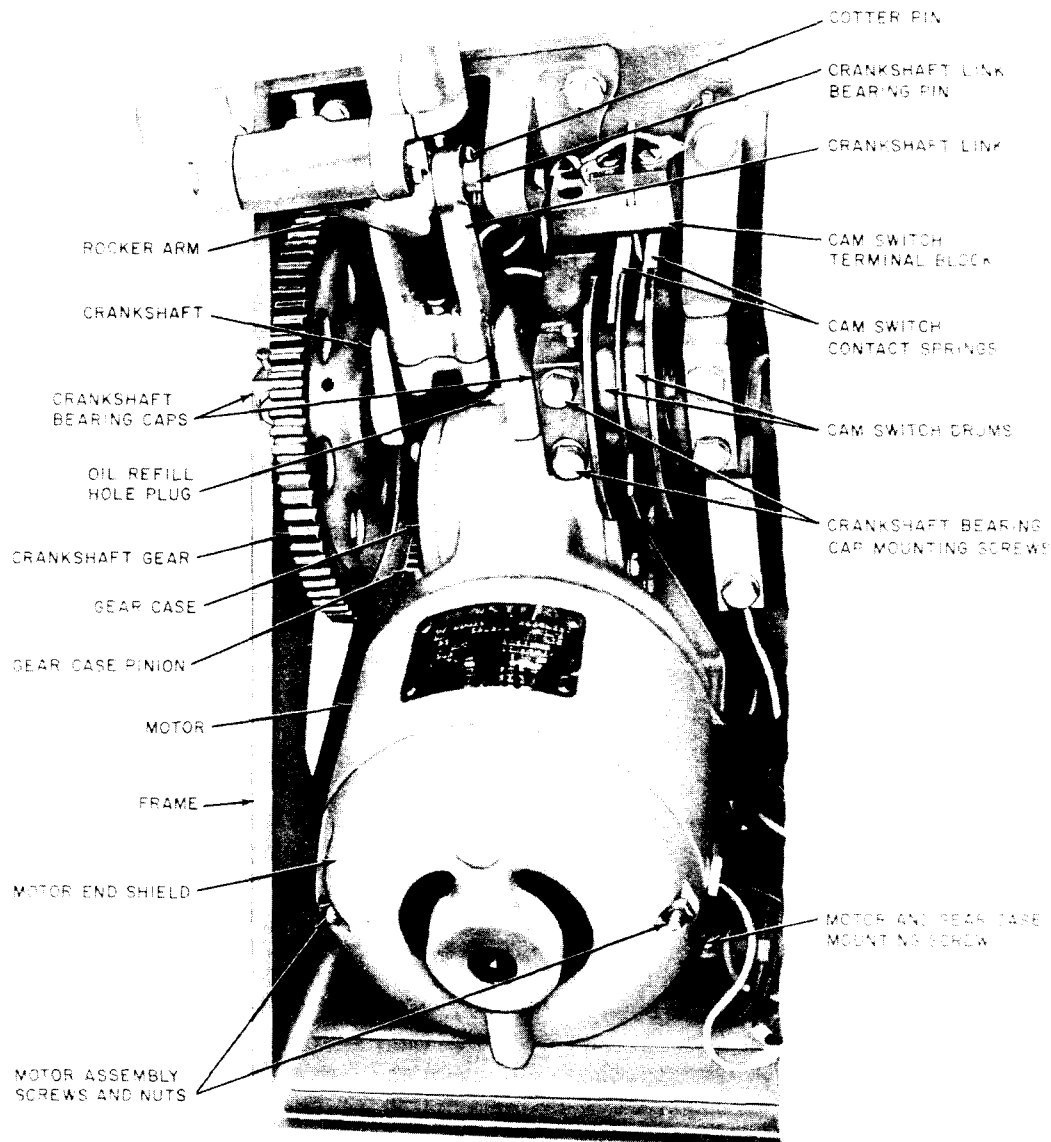

Fig. 3—Portion of KS-5502-Type Motor-Driven Switch Showing Motor and Crankshaft Assembly
(d) **Gear Case, Gear Case Pinion, and Crankshaft Gear:** Fig. 3
- (a) **KS-5502 Motor-Driven Switch:** Fig. 3—The cam switch drums and cam switch contact springs shall be clean. Alignment of contact springs shall be parallel to but shall not touch or rub on insulating barriers.
- (a) **KS-5502 Motor-Driven Switch:** Fig. 3
- (1) The pressure of each cam switch contact spring against the insulated depression on the cam switch drum shall be 1 1/2 to 2 pounds at tip.
- (2) To check the requirements, remove the motor fuse and control circuit fuse for the switch from the battery control board of the associated plant to remove voltage from the cam switch. Then loop string under each contact finger adjacent to contact face and lift perpendicularly with spring balance until contact opens on switch drum. Lifting force
(a) **KS-5502 Motor-Driven Switch:** Fig. 3—The limit switches shall meet the requirements for the 378A key (bottom limit switches) and 392A key (top limit switches) covered in Section 032-711-701.